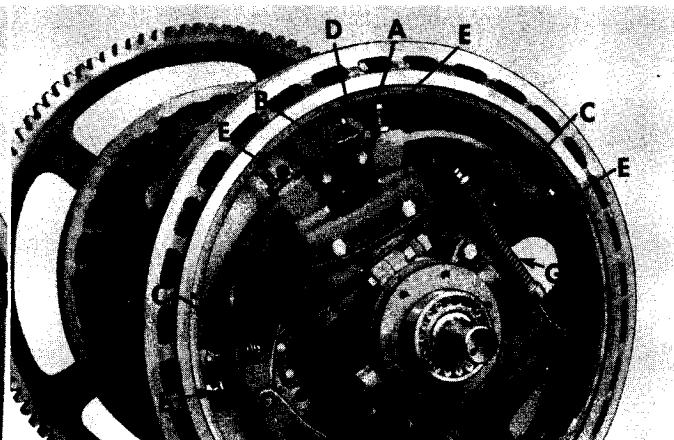

FIG. 10b
2. Adjust the band guide screws "E" (See Fig. 10b) so that the clearance between the band and the housing is uniform all the way around when the clutch is released.
1. Turn the clutch until the band guide screws are near the top as shown in Figure 10b.